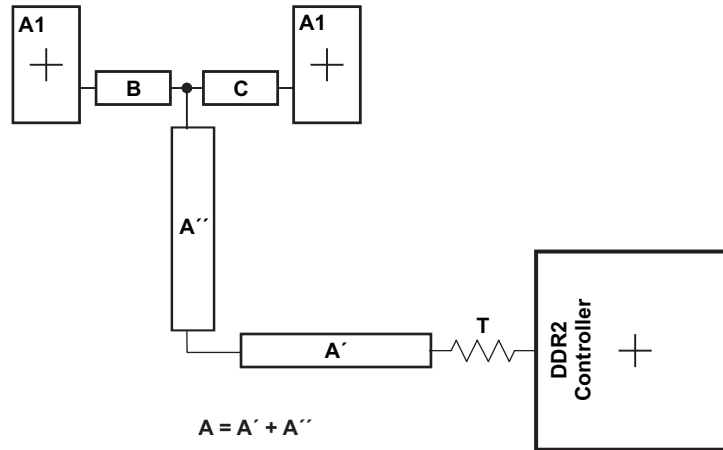

Figure 8-58. CK and ADDR_CTRL Routing and Topology
Figure 8-58 shows the topology of the routing for the CK and ADDR_CTRL net classes. The route is a balanced T as it is intended that the length of segments B and C be equal. In addition, the length of A (A'+A'') should be maximized.
- (1) The length of segment A=A'+A'' as shown in Figure 8-58.
- (2) Center-to-center spacing is allowed to fall to minimum (w) for up to 500 mils of routed length to accommodate BGA escape and routing congestion.
- (3) CACLM is the longest Manhattan distance of the CK and ADDR_CTRL net classes.